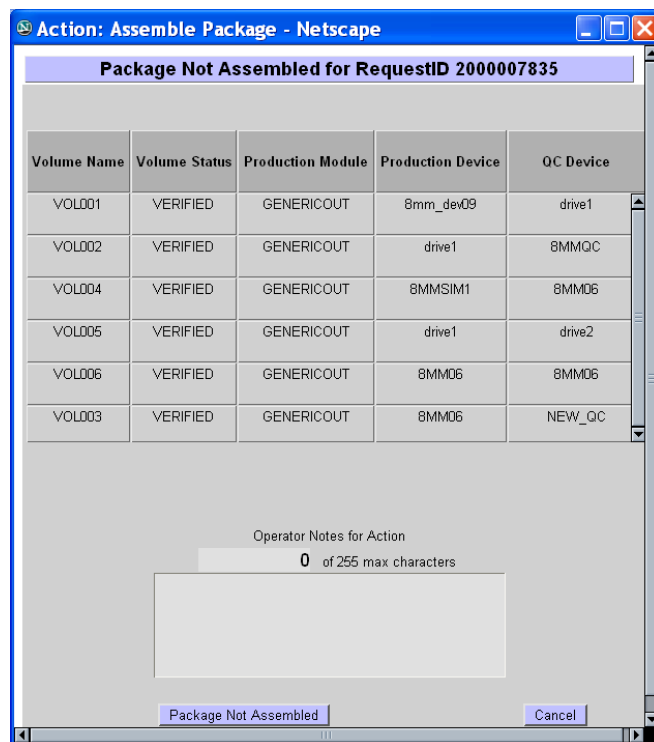

Figure 15.12-10. Package Not Assembled Page
The **Package Not Assembled** page (Figure 15.12-10) provides the full-capability operator with a means of indicating that the package was **not** assembled for shipment. The full-capability operator has the option of annotating the action.
- A **Package Not Assembled** dialog box is displayed (Figure 15.12-10).